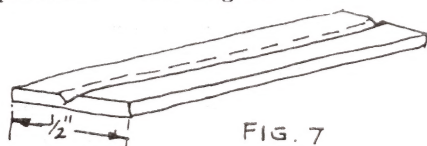

FIG. 7
Step 10 - draw a line lengthways down the middle of the strip and remove the copper coating along the line so that the two halves are electrically separated. See Figure 7.